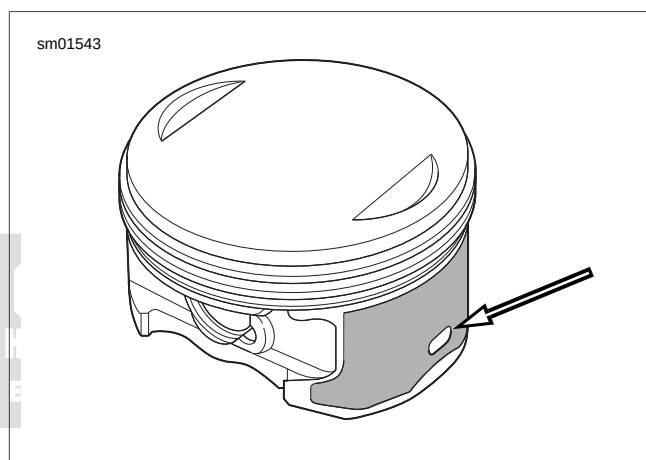

Figure 3-74. Measurement Area
- See Figure 3-74. The measurement is taken on bare aluminum to avoid measuring errors. An oval-shaped opening in the coating is present on each side of the piston for placement of the micrometer.